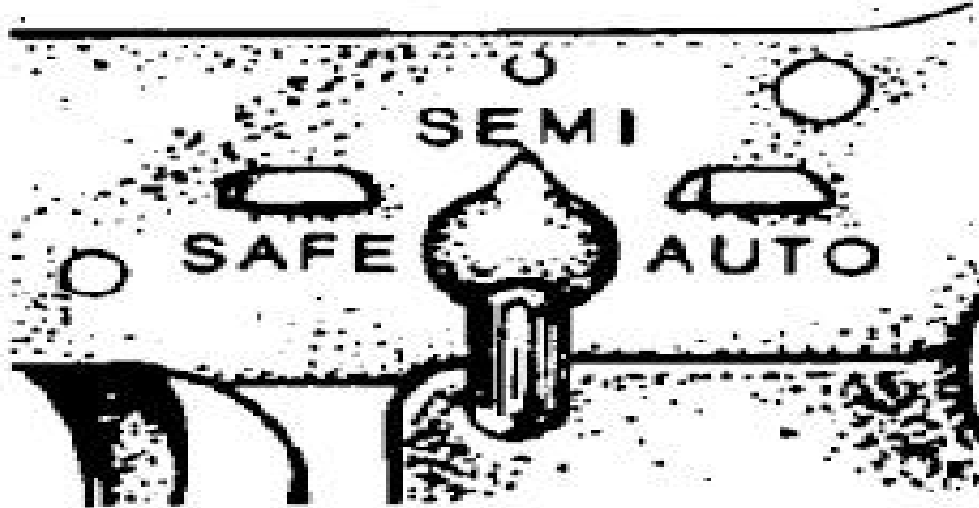

Figure E-44. Selector on SEMI
2. Check an M16-Series or M4-Series rifle with the selector lever in the SEMI position (figure E-44).